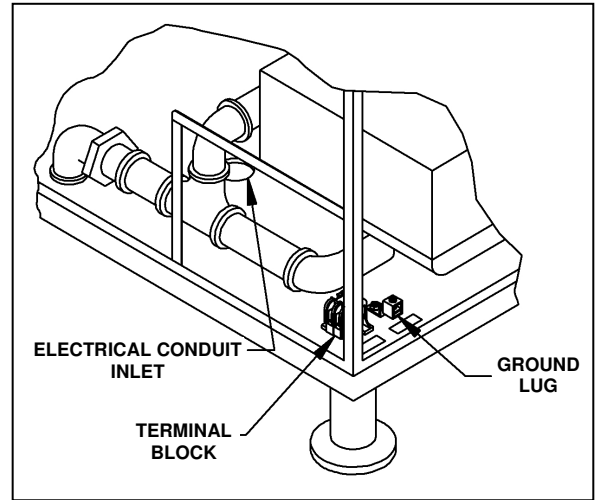

Figure 2-10, Electrical Connections
- d. Refer to the connection diagrams in Figure 2-10, and connect the wires to the terminal block and ground connector accordingly.